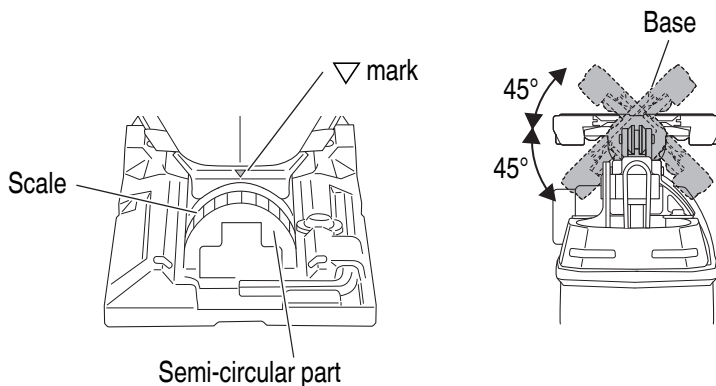

Fig. 18
(2) Align the scale (from 0 degrees to 45 degrees by 15-degree increments) of the semi-circular part of the base with the [▽] mark on the gear cover. (Fig. 18)